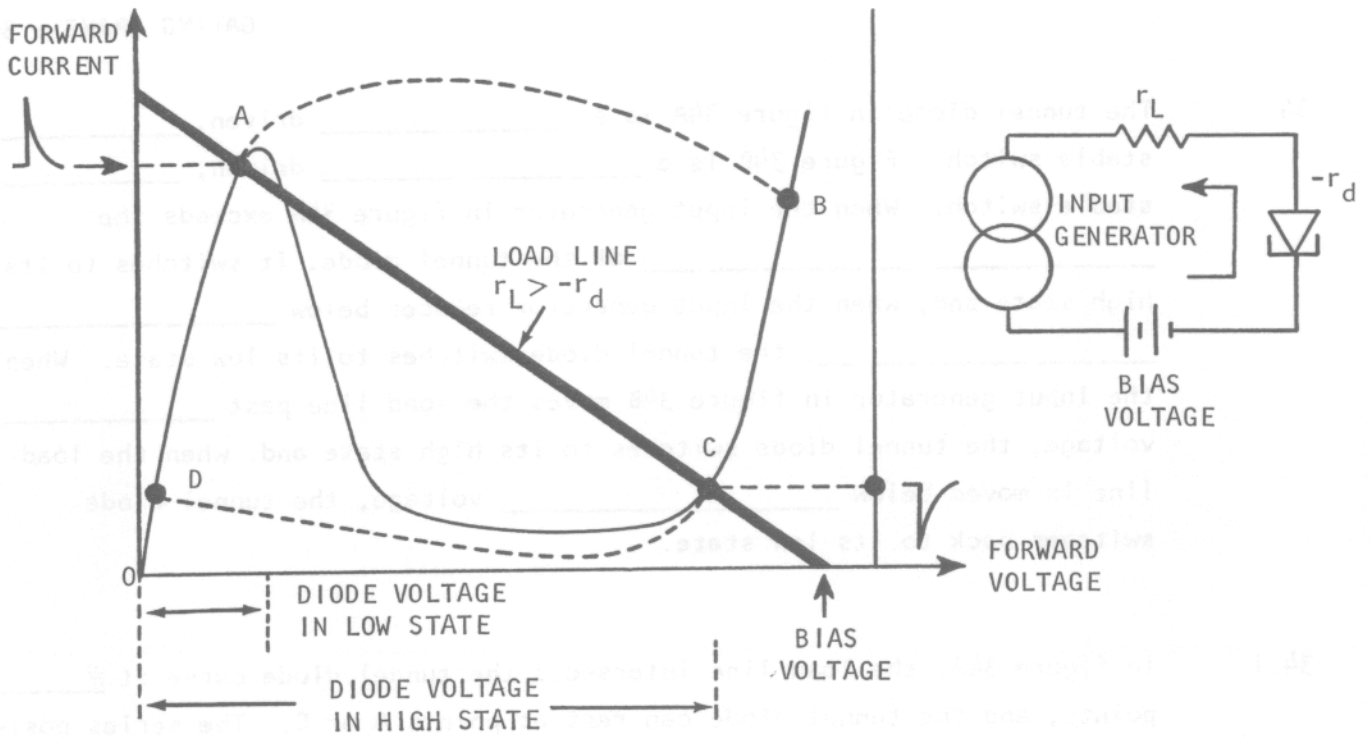

FIGURE 34A
34.3 If the input generator in figure 34A tries to increase the current beyond the diode's peak current, the tunnel diode will switch rapidly to somewhere near point B and then rest at point _____ on the diode curve.